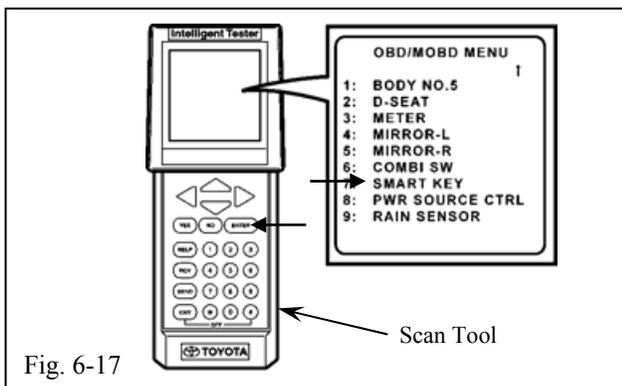

Fig. 6-17
- (x) Select "SMART KEY" in the OBD/MOBD menu with the scroll key, then press the "ENTER" button. (Fig. 6-17)